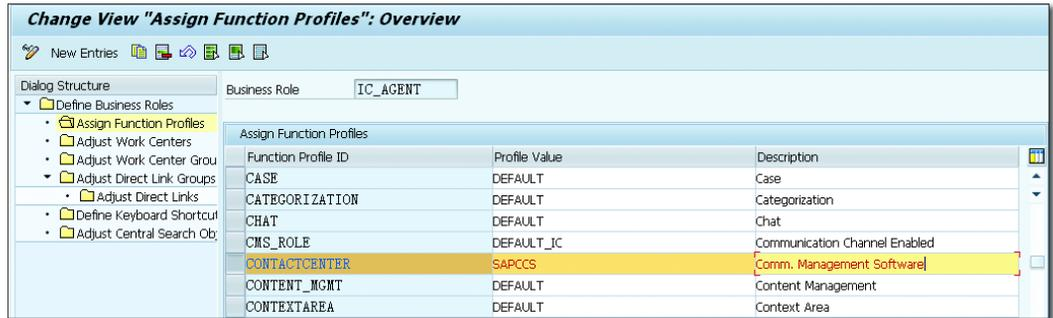

Figure 9.10 Assigning Function Profile CONTACTCENTER
5. Assign the CMS profile created to the function profile CONTACTCENTER, as shown in Figure 9.10. Navigate to CUSTOMER RELATIONSHIP MANAGEMENT • UI FRAMEWORK • BUSINESS ROLES • DEFINE BUSINESS ROLE.